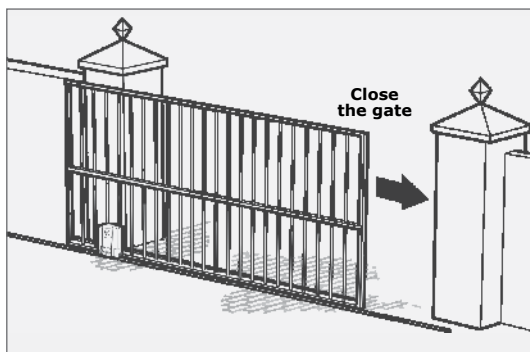

FIGURE 31
2. Mount the origin marker to the rack a minimum of 500mm from the origin sensor. Refer to Figure 31, isometric view A or plan view B.